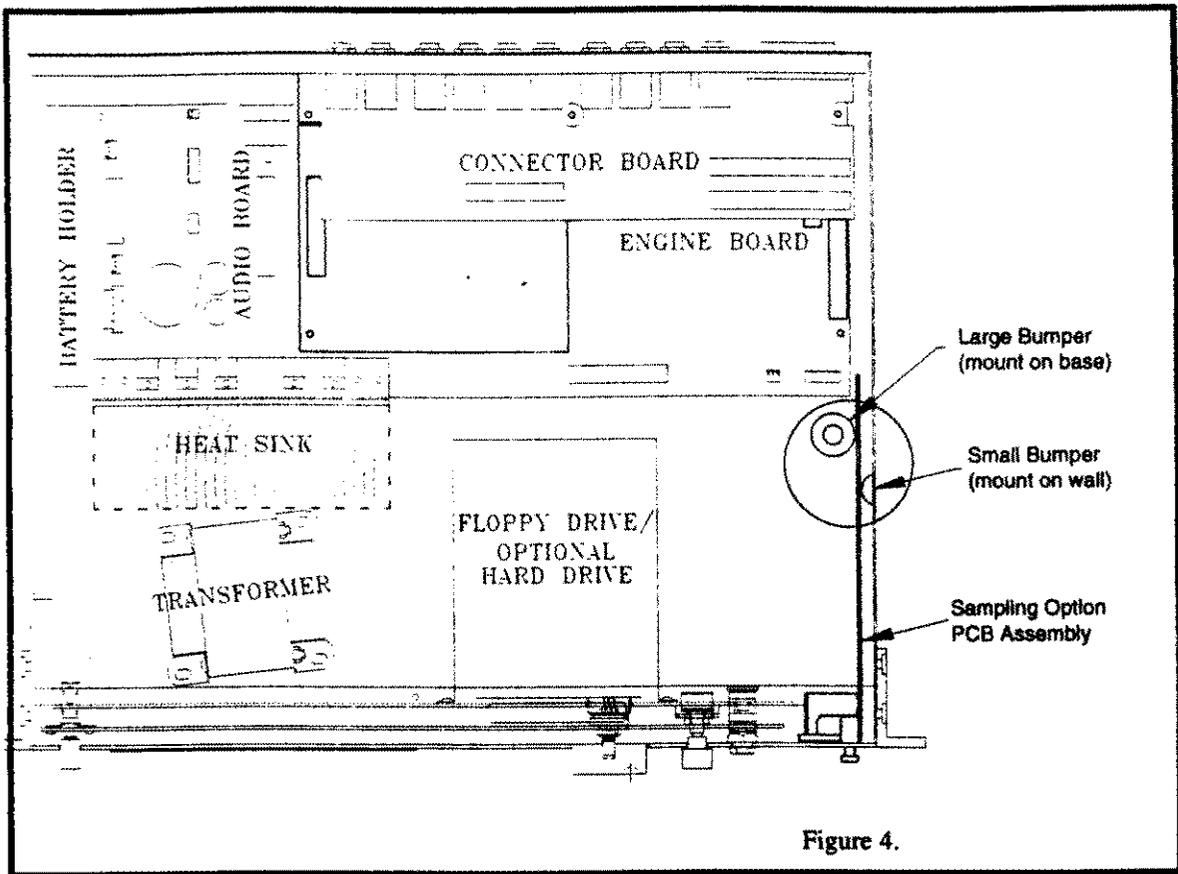

Figure 4.
9. See Figure 4. Install Item 8, Rubber Bumpers, as shown. Stick the large bumper to the bottom of the enclosure near the back of the location for the SMP-R2 Sampling Option PCB Assembly, and the smaller bumper to the right side of the enclosure, about one inch from the bottom of the enclosure. **Note:** The purpose of the bumpers is to prevent the SMP-R2 Sampling Option PCB Assembly from moving freely within the unit.